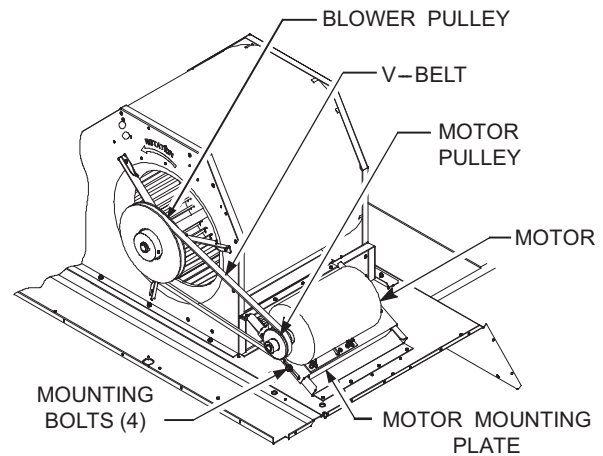

Fig. 8 — Typical Belt Drive Motor Mounting
The belt-drive supply fan system consists of a forward-curved centrifugal blower wheel on a solid shaft with two concentric type bearings, one on each side of the blower housing. A fixed-pitch driven pulley is attached to the fan shaft and an adjustable-pitch driver pulley is on the motor. The pulleys are connected using a V-belt. See Fig. 8.
Use the following steps to replace the V-belt. See Fig. 8.
2. Loosen belt by loosening fan motor mounting nuts. See Fig. 8.